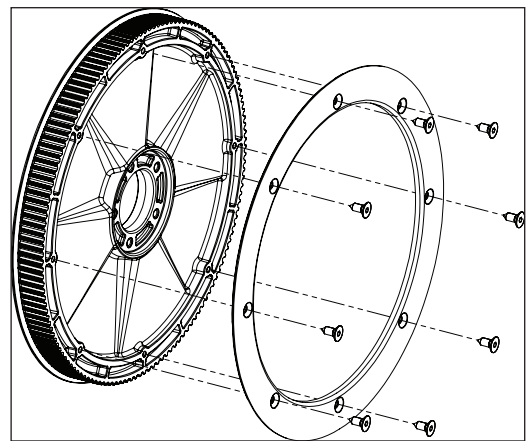

FIGURE 8.1
1. Remove the 8-4mm screws from the perimeter on the flange using a 2.5mm hex key. (Figure 8.1)
2. Remove the flange from the pulley. (Figure 8.1)